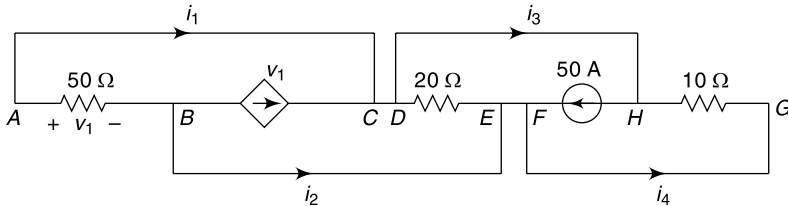

Fig. 14.28
14.56 Determine the values of i_1 , i_2 , i_3 and i_4 for the circuit shown in Fig. 14.28.
The circuit shown in Fig. 14.28 has been redrawn as shown in Fig. 14.29(a).